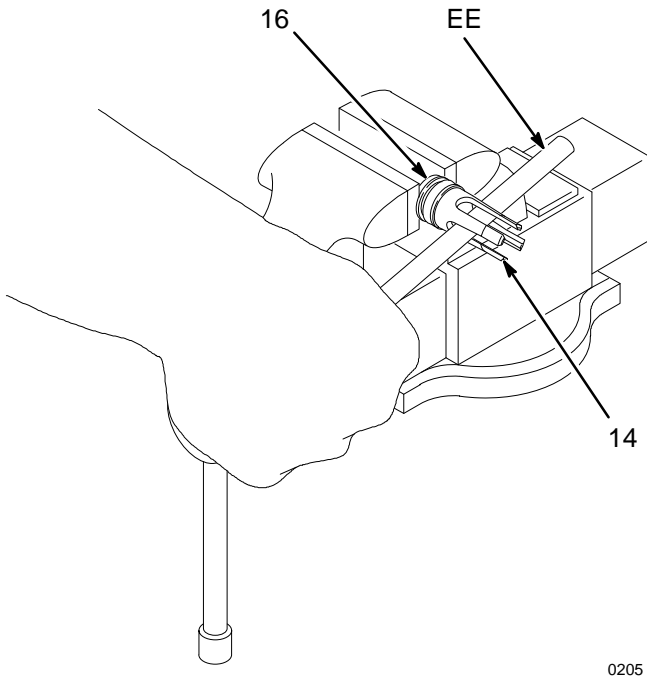

Fig. 6
13. Place the flats of the piston seat (16) in a vise. Using a 13 mm (1/2 in.) dia. brass rod (EE), unscrew the piston guide (14) from the piston seat (16). See Fig. 6. Remove the piston seal (15); always replace with a new one. Inspect the mating surfaces of the piston (13) and piston seat (16) for nicks, scoring or wear.